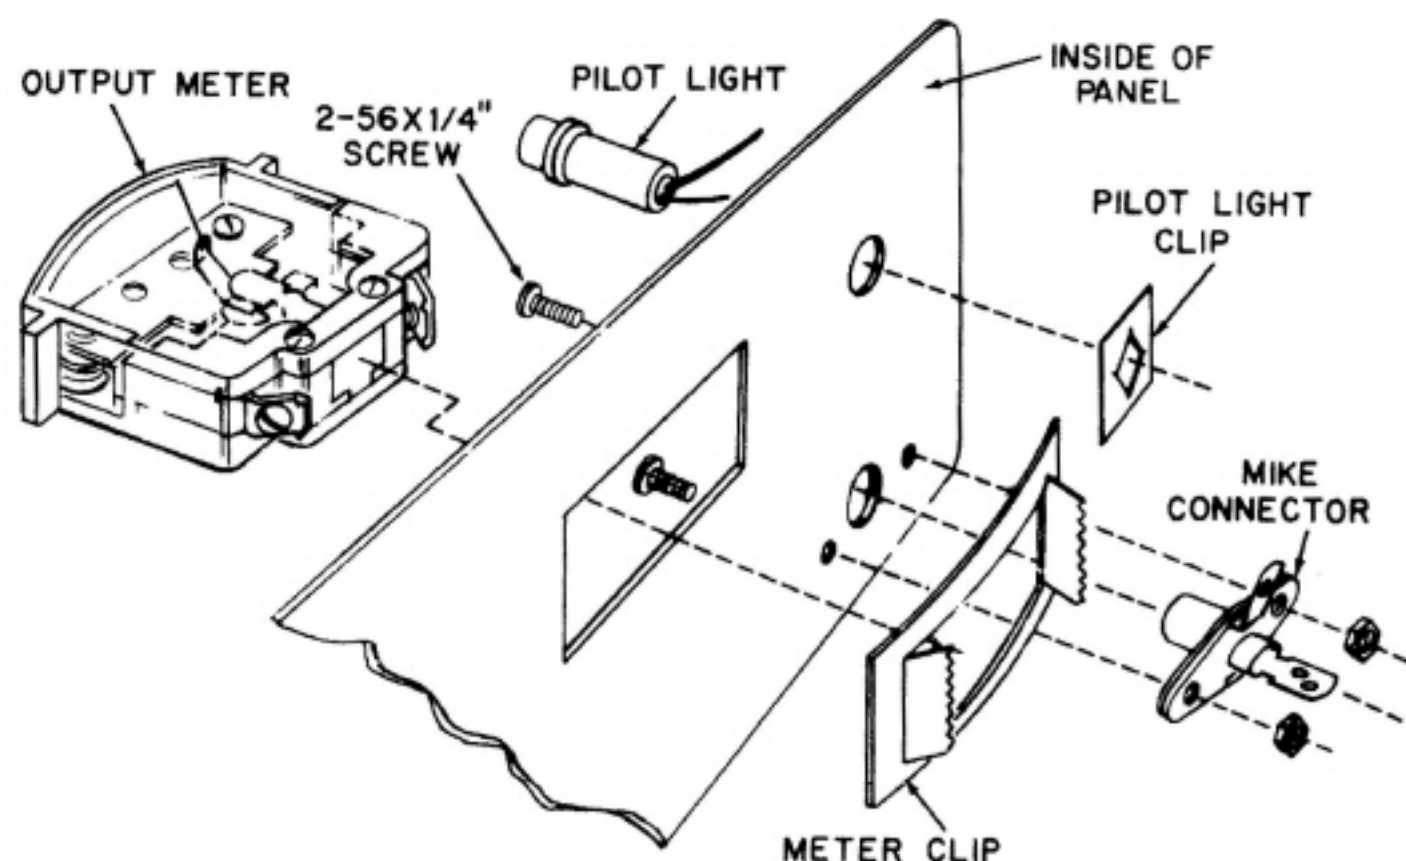

FIGURE 16
### SEE FIGURE 16
- ☐ Power output meter. See Figure 16. Insert meter through hole on front side of front panel. Take rectangular mounting clip and slip over meter body from backside of panel, make sure the meter is in correct position. Do not mount meter upside down. Place meter face on soft surface and push clip down with fingers until meter is secure.
- ☐ Red, flat-faced pilot light. See Figure 16. Insert light through hole on front side of front panel. Slip small square mounting clip over the light body. Place face of light on soft surface, and push clip down with screwdriver till light is secure.